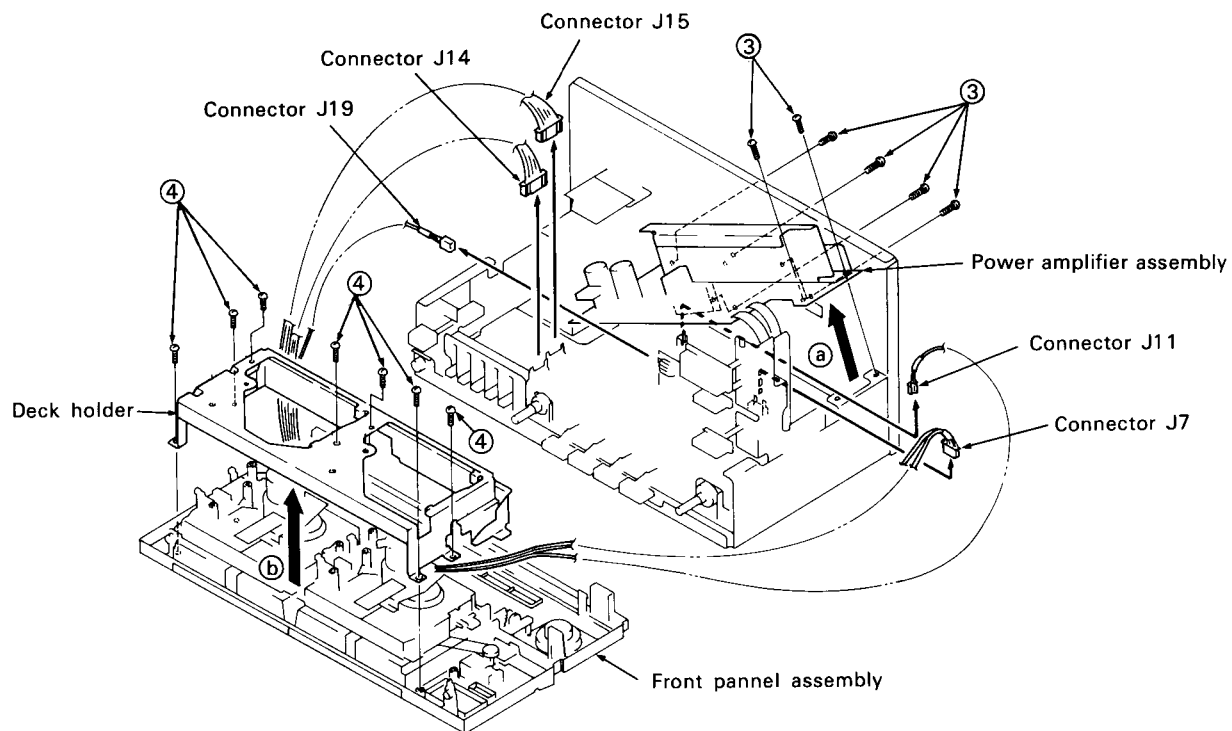
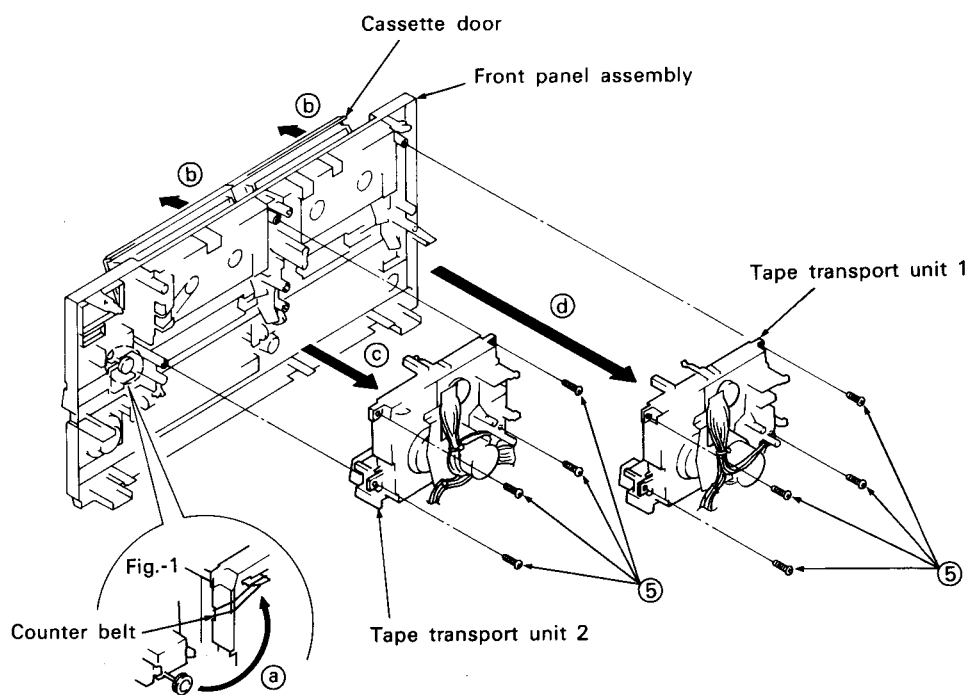

Fig. 3-2
Fig. 3-3
1. Remove 5 pieces of screw ①.
3. Remove 2 pieces of screw ②, and 1 piece of nut ②.
5. Remove 6 pieces of screw ③, and enable the Power amplifier assembly to move upward (See Fig. 3-2)
7. Remove 7 pieces of screw ④, and remove Deck holder (with Synchro plate).
8. Open Cassette door. (See Fig. 3-3)
9. Remove 4 individual pieces of screw ⑤.